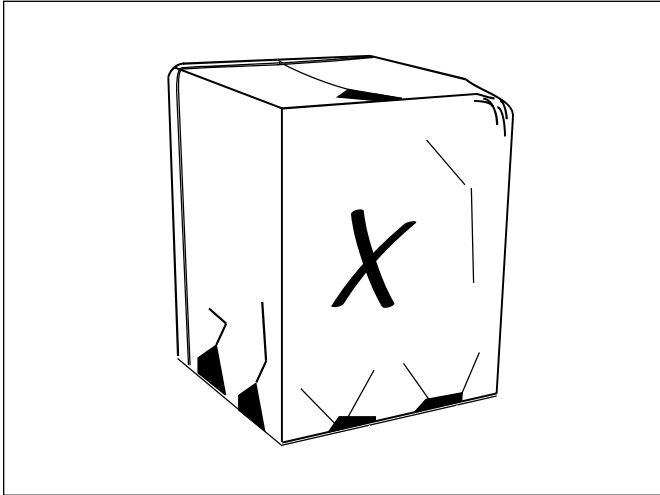

Figure 9
- Check for damage and report promptly to the carrier any damage found to the unit (Figure 9).